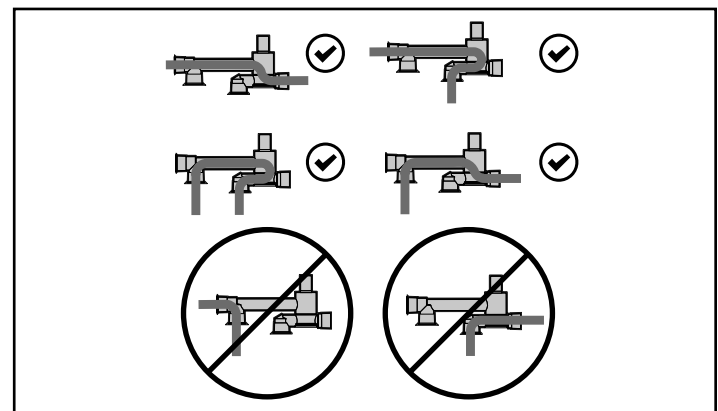

Figure 2: Integral Coolant Heater Manifold
10. Connect and route the Fuel Pro 483 heater hoses to the cab heater hoses. See Figure 2 for correct Fuel Pro 483 coolant hose connection configurations.